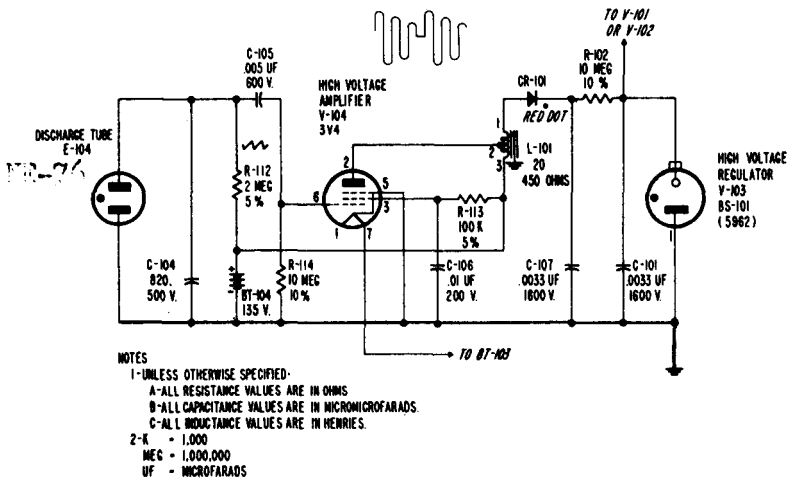

Figure 2-7. High Voltage. Power Supply Circuit
f. HIGH-VOLTAGE POWER SUPPLY CIRCUIT. (See figure 2-7.)—The high-voltage power supply circuit consists of a relaxation oscillator circuit, a power amplifier circuit, a rectifying and filtering circuit, and a regulating circuit.
(1) RELAXATION OSCILLATOR CIRCUIT. (See figure 2-7.)
(2) HIGH VOLTAGE AMPLIFIER CIRCUIT. (See figure 2-7.)
(3) Rectifying AND FILTERING CIRCUIT. (See figure 2-7.)—In the rectifying and filtering circuit, the oscillations of **L101** are rectified. Half-wave rectification is provided by selenium rectifier **CR101**; the rectified voltage is filtered in a network consisting of resistor **R102** and capacitors **C107** and **C101**. The rectified oscillations provide approximately **900-volt** d-c power at the junction of **R102** and **C101**. This output is applied to the regulating circuit.
(4) REGULATING CIRCUIT. (See figure 2-7.)—The regulating circuit consists of resistor **R102** in series with corona-discharge tube **V103**. Tube **V103** functions in a manner similar to the standard gaseous discharge voltage regulator tubes, except that it regulates at 700 volts. Resistor **R102** limits the current through **V103**. Capacitor **C101**, in parallel with **V103**, bypasses noise and stray voltages induced in the wires. Regulated **700-volt** d-c power is fed from the junction of **R102** and **V103**, through **R101** in the detector circuit, to either **V101** or **V102**. Note that **R102** serves a dual function. It is common to the filter circuit and to the regulating-circuit.